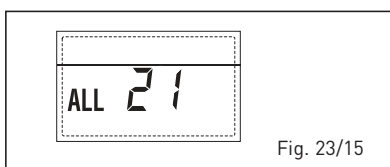

Fig. 23/15
– **INTERVENTION THERMOSTAT SECURITE DEUXIEME ZONE MIXTE “ALL 22”** (fig. 23/16)